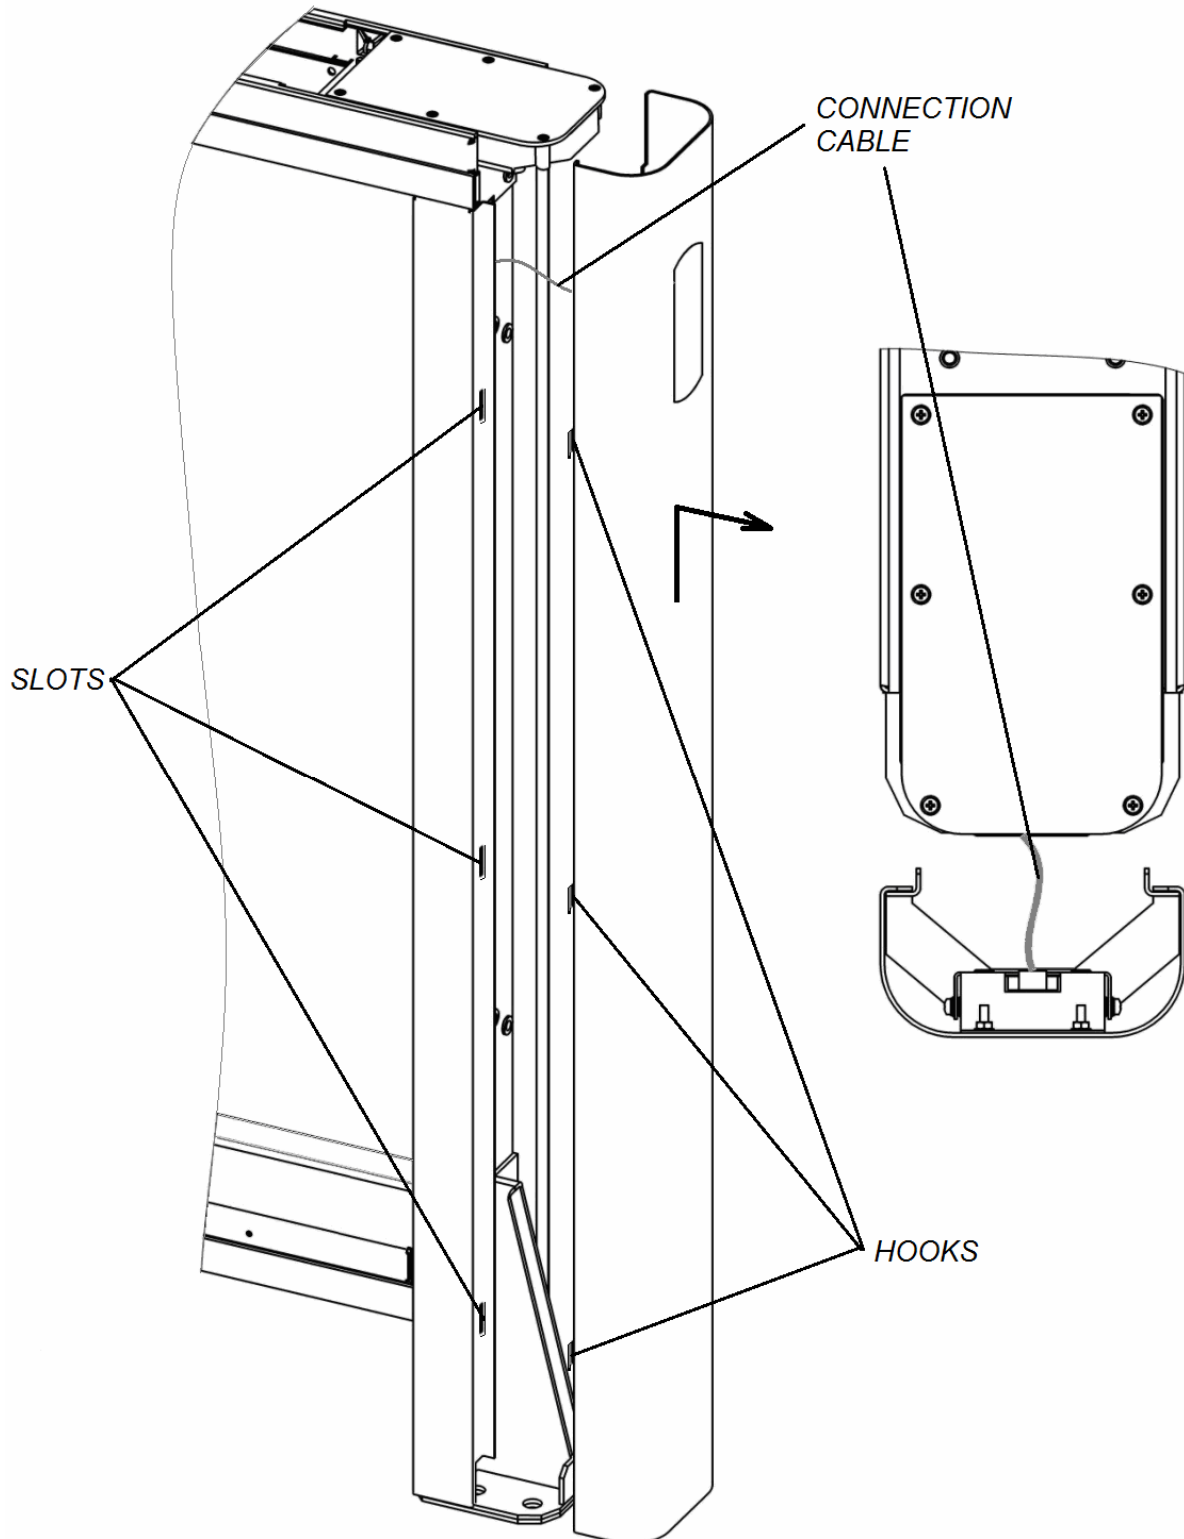

Figure 20. Side post front panel disassembly
Remove the side post front panel (8), shifting it up along the post and then pull it, bringing the hooks from slots in the side post (Fig. 20). Be careful not to damage the connecting cable! Disconnect the connecting cable output from the front end indication module.